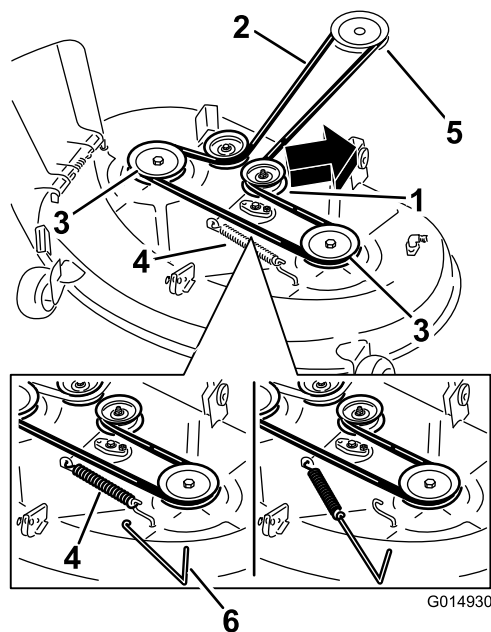
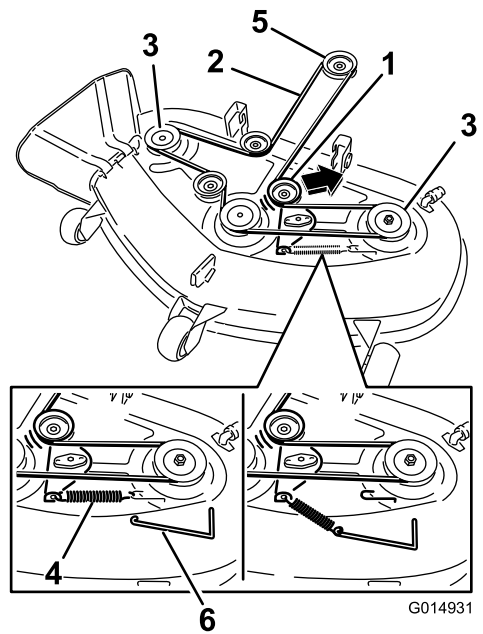

Figure 69
Figure 70
5. Using a spring-removal tool (Toro part no. 92-5771), remove the idler spring from the deck hook to remove tension on the idler pulley, and roll the belt off of the pulleys (Figure 69 and Figure 70).
6. Route the new belt around the engine pulley and mower pulleys (Figure 70).
7. Using a spring-removal tool (Toro part no. 92-5771), install the idler spring over the deck hook, and place tension on the idler pulley and mower belt ((Figure 69 and Figure 70).